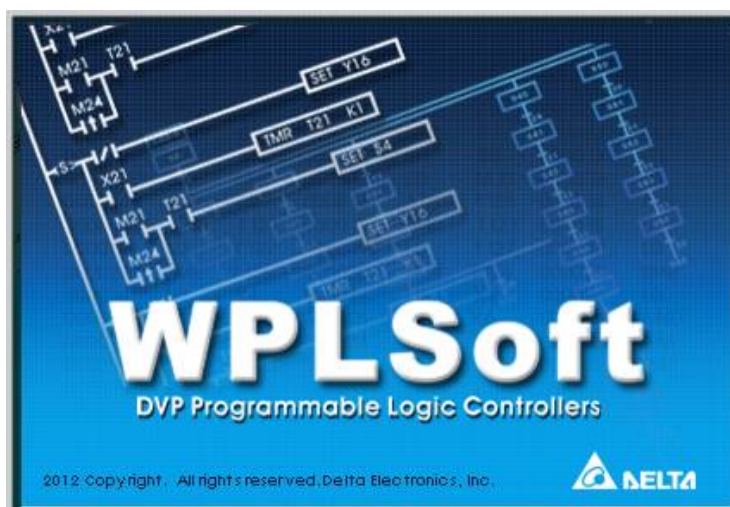

Figure 16-1 (Left: WPLSoft icon; Right: Start WPLSoft)
Step 1: Click on the WPLSoft icon to start the editing software. (See figure 16-1)